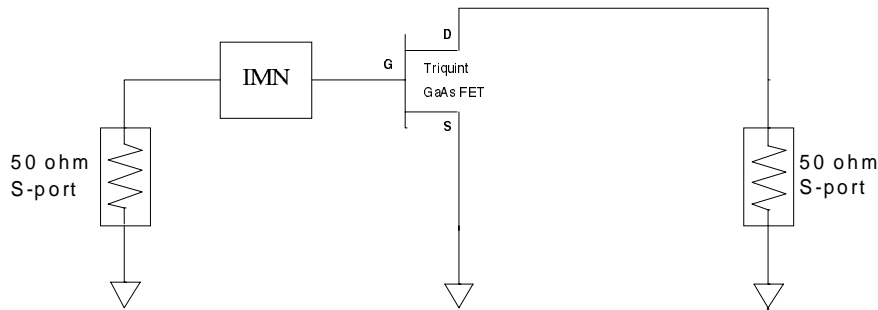

Figure 6: IMN test circuit
- Construct the circuit shown in Figure 6. The FET bias parameters are unchanged.
- Configure MDS for an S -parameter simulation. In the 'Simulation Setup' dialog window, set *Sweep type*="Single Point" and *Frequency*=15 GHz. For the circuit in Figure 6, $\Gamma_{OUT} = S_{22}$.